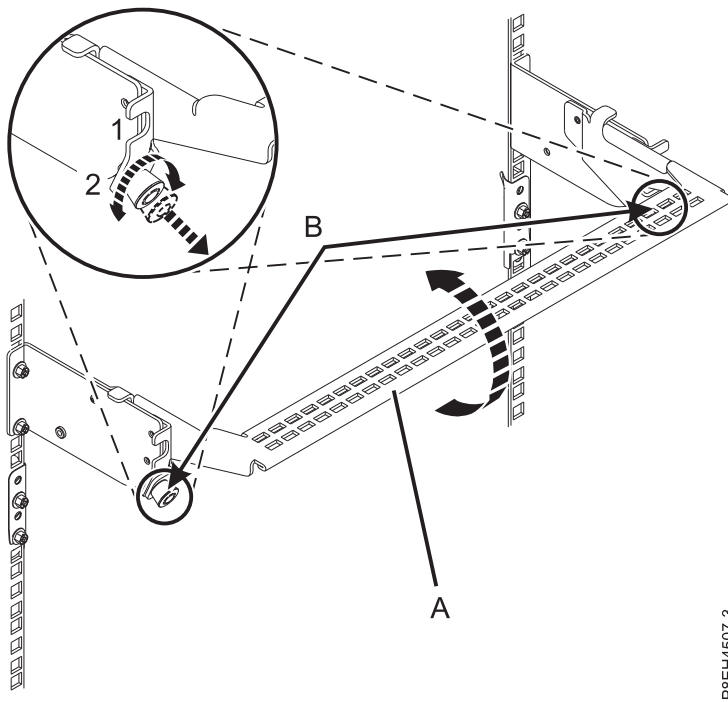

Figure 81. Placing the cable management bracket in the service position
9. At the rear of the EMX0 PCIe3 expansion drawer, put the cable management bracket in the service position. See Figure 81 on page 78.